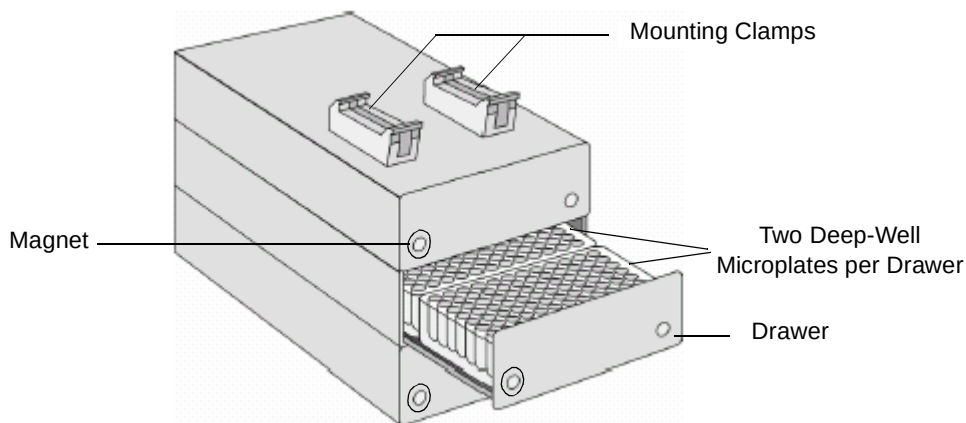

Figure 2-22 Installing a 3-Drawer Microplate Stack
1. Loosen the two TORX screws at the rear of the two mounting clamps on top of the stack (Figure 2-22).